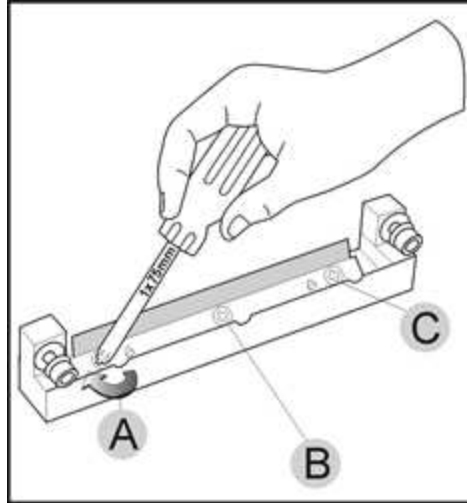

Figure 4-73 Tightening the roller scraper screws
- Tighten the screws in the order shown in Figure 4-73.